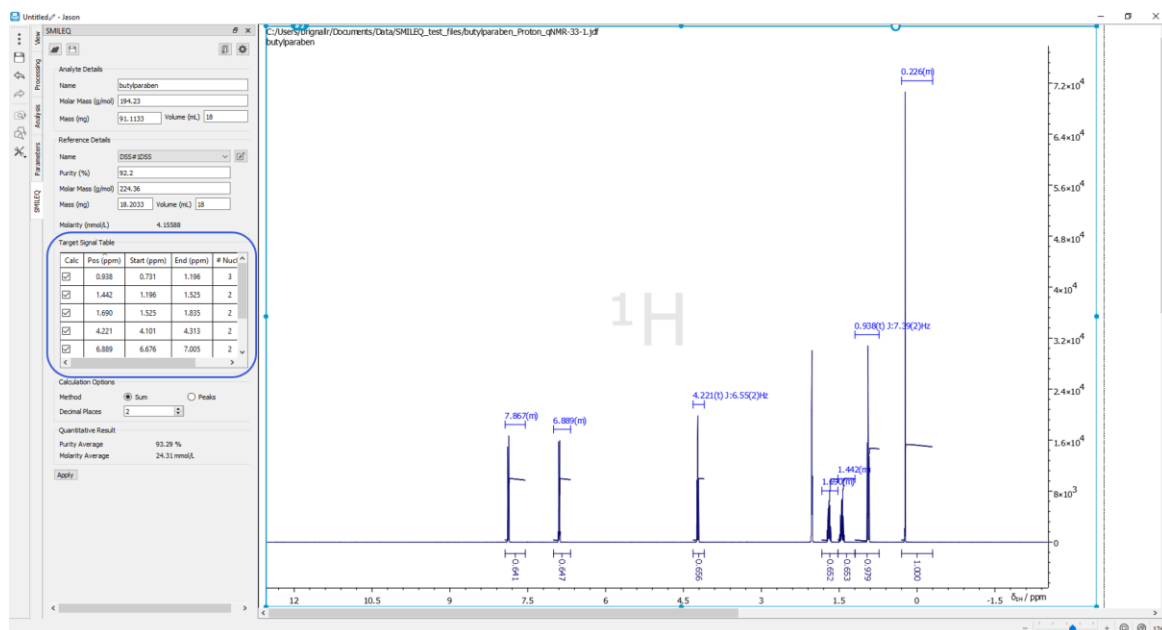

Figure 21: SMILEQ widget after confirming the target signal table
- Fill in the box at reference information area. Select the desired reference from the **"Name"** and enter the reference parameters required for the analysis (see section 2.2 and Figure 21.)